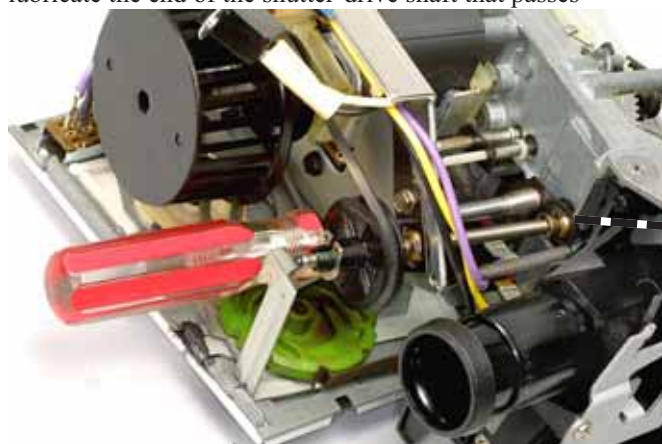

FIG. MD17 Front of projector viewed from bottom.
1. Loosen the screw on the black bracket at the back of the shutter, Fig. MD16. Fig. MD17 shows how to reach the screw with a nut driver.